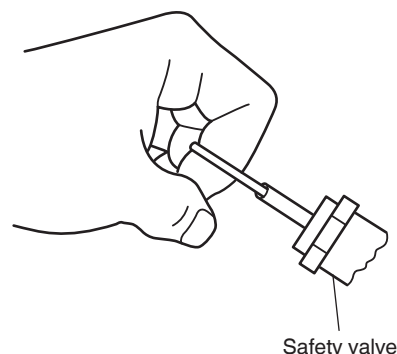

Fig. 7
- C) Make sure the safety valve is working correctly (refer to Fig.1). The safety valve is designed to prevent system failures by relieving pressure from the system when this compressed air reaches a predetermined level. The safety valve is preset by the manufacturer and must not be modified in any way. Before starting the compressor, pull the ring on the safety valve to make sure that the safety valve operates smoothly. (Fig. 7) Do not use the compressor if the safety valve is stuck or does not operate smoothly. Have the defective safety valve replaced by a Hitachi authorized service center.